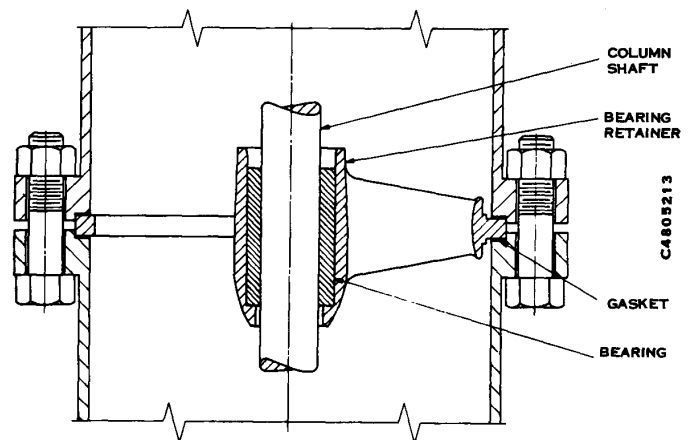

Fig. 5-6 Bearing retainer installed between column sections.
7. Clean the protruding upper end of the shaft. Place a gasket in the recess in the column section flange. Slide a bearing retainer over the shaft, as shown in Fig. 5-6, resting the rim of the retainer on the gasket. Place another gasket on top of the rim.
8. If there are two or more column sections, install them in the same manner as for the bottom section, except that the top column section may not have a bearing retainer. When installing bolts in column flanges containing a bearing retainer, the bolts must be tightened gradually to obtain a uniform gap between the flanges. The gap must not vary by more than .002 inch all around. (See Fig 5-6). Check this with a feeler gage as the bolts are tightened.
Raise the entire unit a few inches, and remove the box clamp. Install the remaining bolts in the flanges. Tighten all of the bolts gradually to obtain a uniform gap between the flanges. The gap must not vary by more than .002 inch all around. (See Fig. 5-6). Check this with a feeler gage as the bolts are tightened.